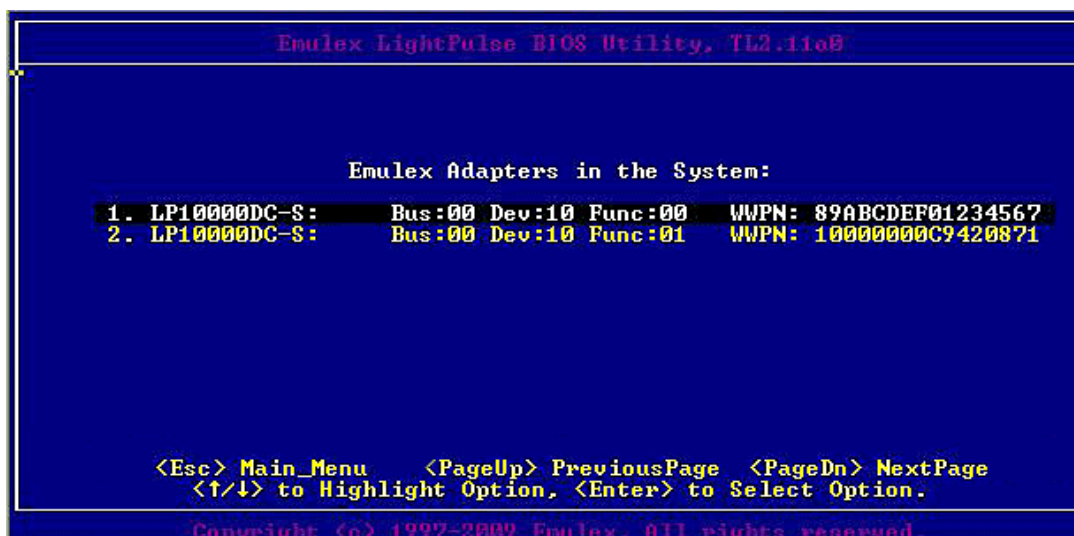

Figure 4-1 Adapter Listing Screen
1. Turn on the computer and press and hold down <Alt> or <Ctrl> and <E> immediately (within five seconds) when the bootup message to enter the BIOS utility is displayed. An adapter listing is displayed (Figure 4-1).